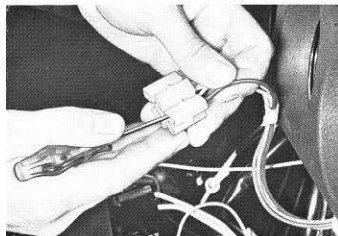

Fig. 8-65. Removing electric cables for contact unit
5. Disconnect the contact unit from the fan motor control and disconnect the fan motor electric cables from the contact unit (Fig. 8-65) and the control plate.